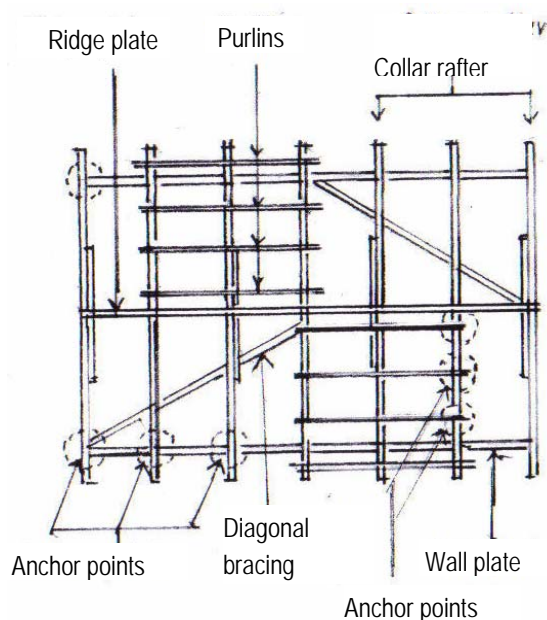

Fig 36 - **Typical roof plan for corrugated sheet gable roof**
- Made sure that timber roof members at end walls are anchored to each other at ridges, at rafters, and at purlins (See fig. 36)
- Made sure that every collar rafter between end walls that sit on wall plates on side walls are anchored securely to each wall plate (See fig. 36)
- In areas subject to high wind velocities – Made sure that diagonal bracing is also provided at the soffit of groups of rafters (See fig. 36)